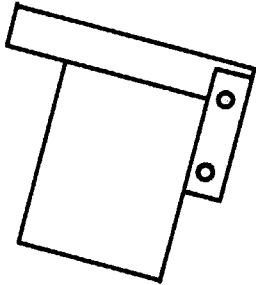

Fig. 2
3. File $2 1/4"$ end square with first side. Check with Square. Fig. 2